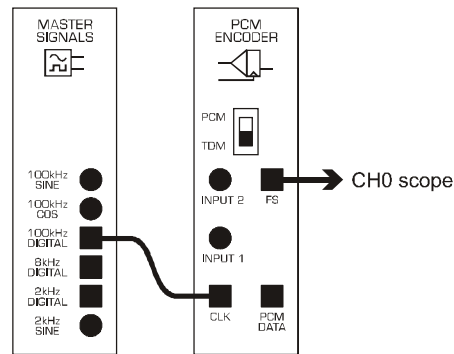

Figure 26: "adjust_the_PCM_TDM" wiring diagram
1. Use patching cords to wire up DATEx blocks according to the wiring diagram in Figure 26.